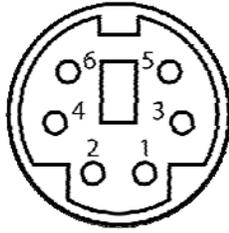

Figure 3-26: PS/2 Pinout and Configuration
- CN Pinouts:** See **Figure 3-26** and **Table 3-27**